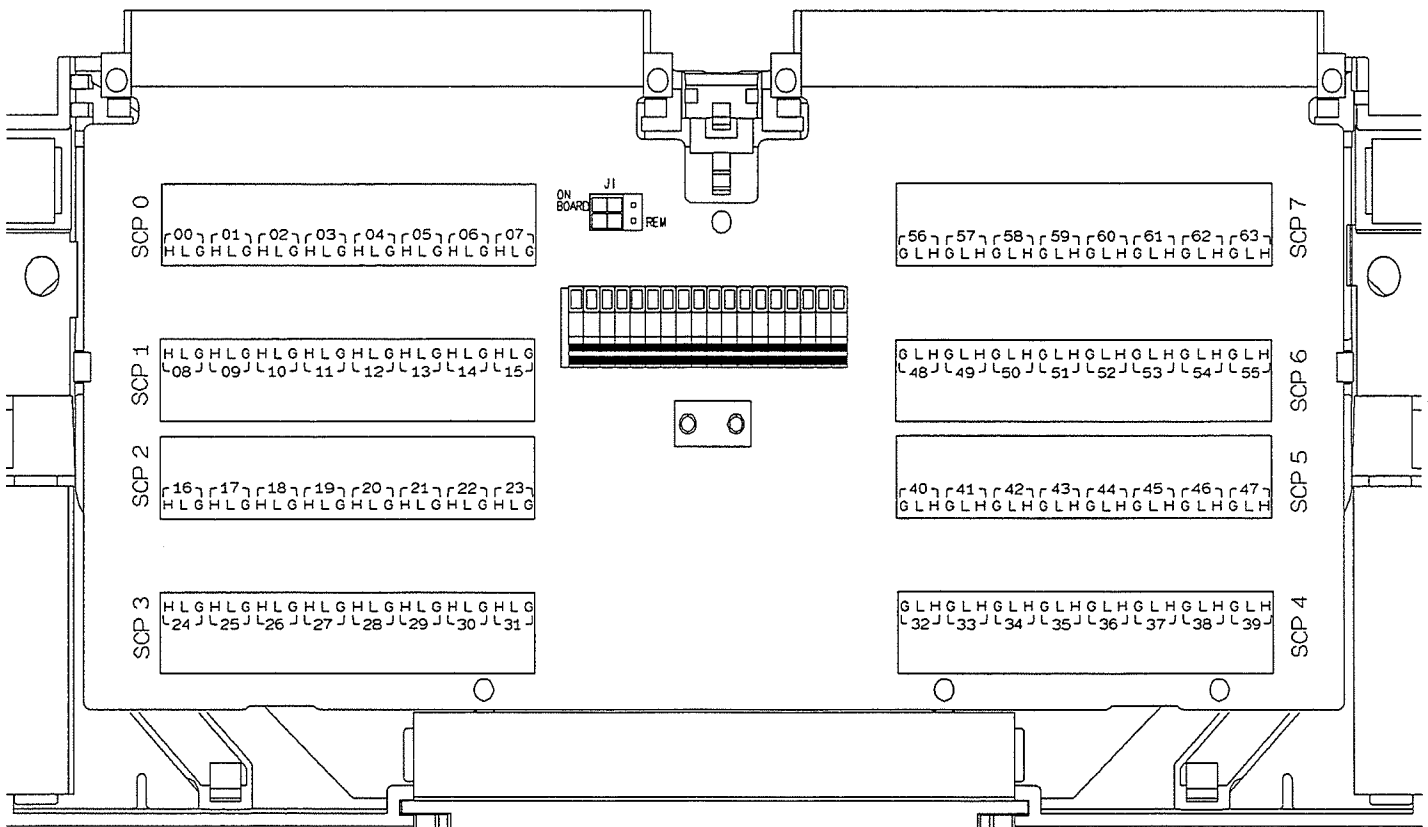

Figure 1 HP E1501 C-Size Terminal Module Connections
- For HP E1413C and above Terminal Modules, use stickers for HP E1501 SCPs. The connections are shown in Figure 1.
Open Transducer Detection (OTD) is controlled by bits in the Card Control Register. For more information on OTD see Figure 1.